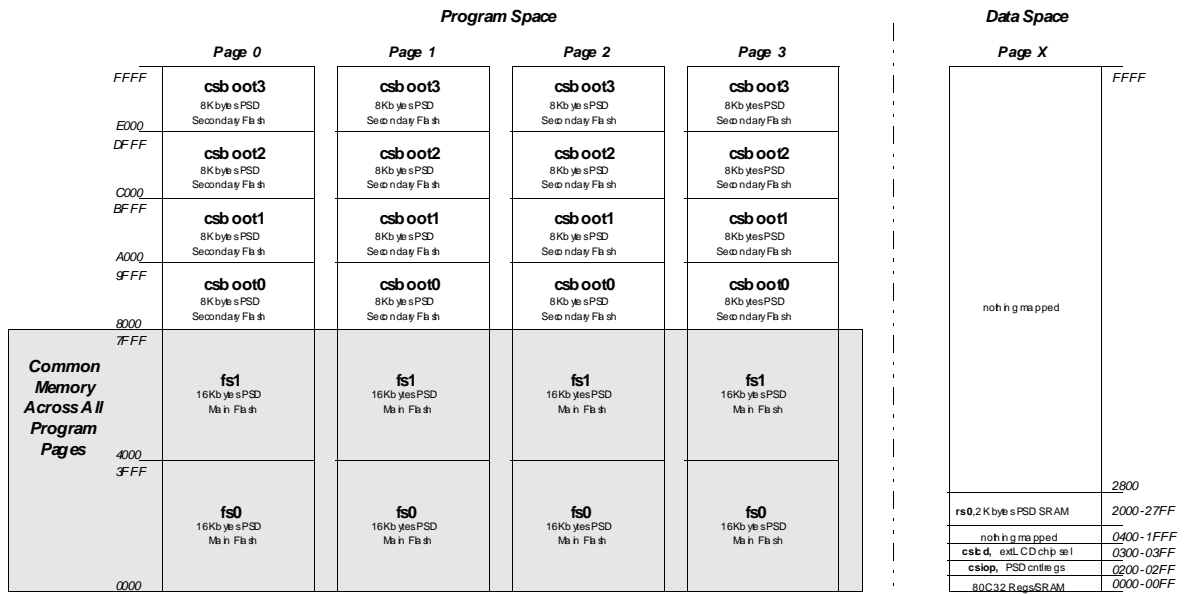

Figure 10 – Memory Map just after 80C32 sets swap = 1.
- Fig 10: Secondary flash memory has moved out of MCU address range 0000 to 7FFF and main flash memory has moved into its place because of the swap bit. This swapping action is implemented by qualifying the chip-selects with the swap signal.
- Fig 10: 80C32 writes 0C hex to PSD VM register